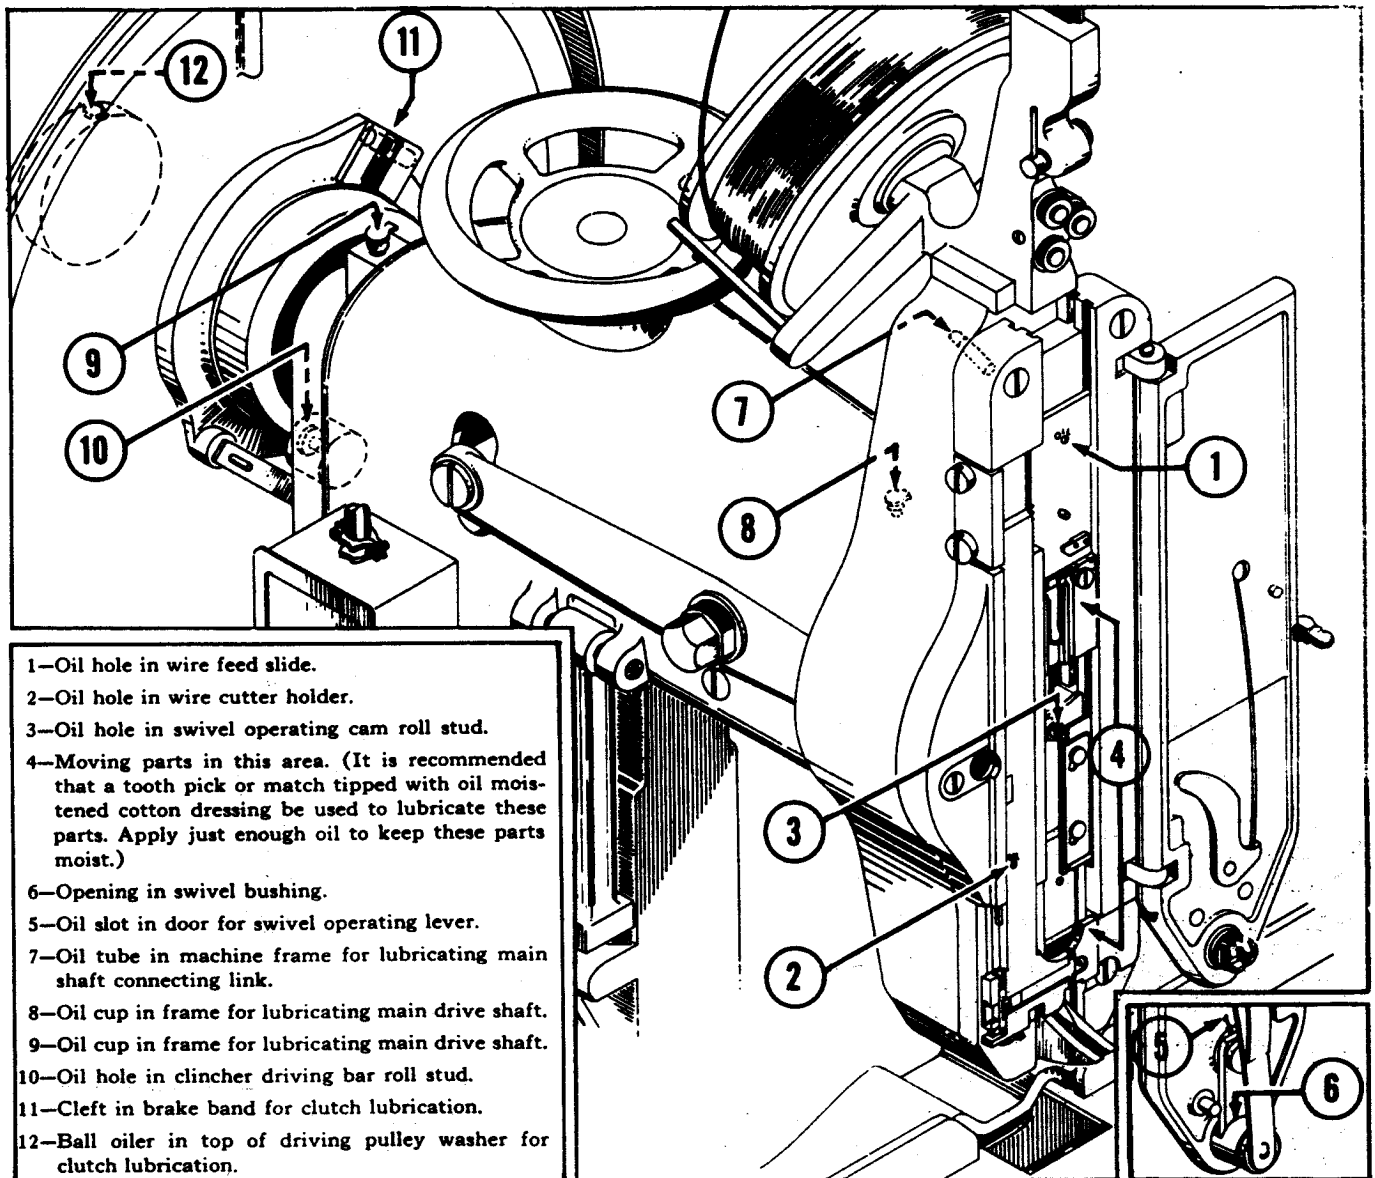

Figure 10—Lubrication Points
1. LUBRICATION (See Fig. 10.)
Use an S.A.E. No. 10 oil for lubricating the No. 7 Stitcher. Machines that are in constant operation should be lubricated daily, with Lubrication Point (11), see Fig. 10, being oiled twice a day. Machines that are operated periodically should be lubricated just prior to running a job.